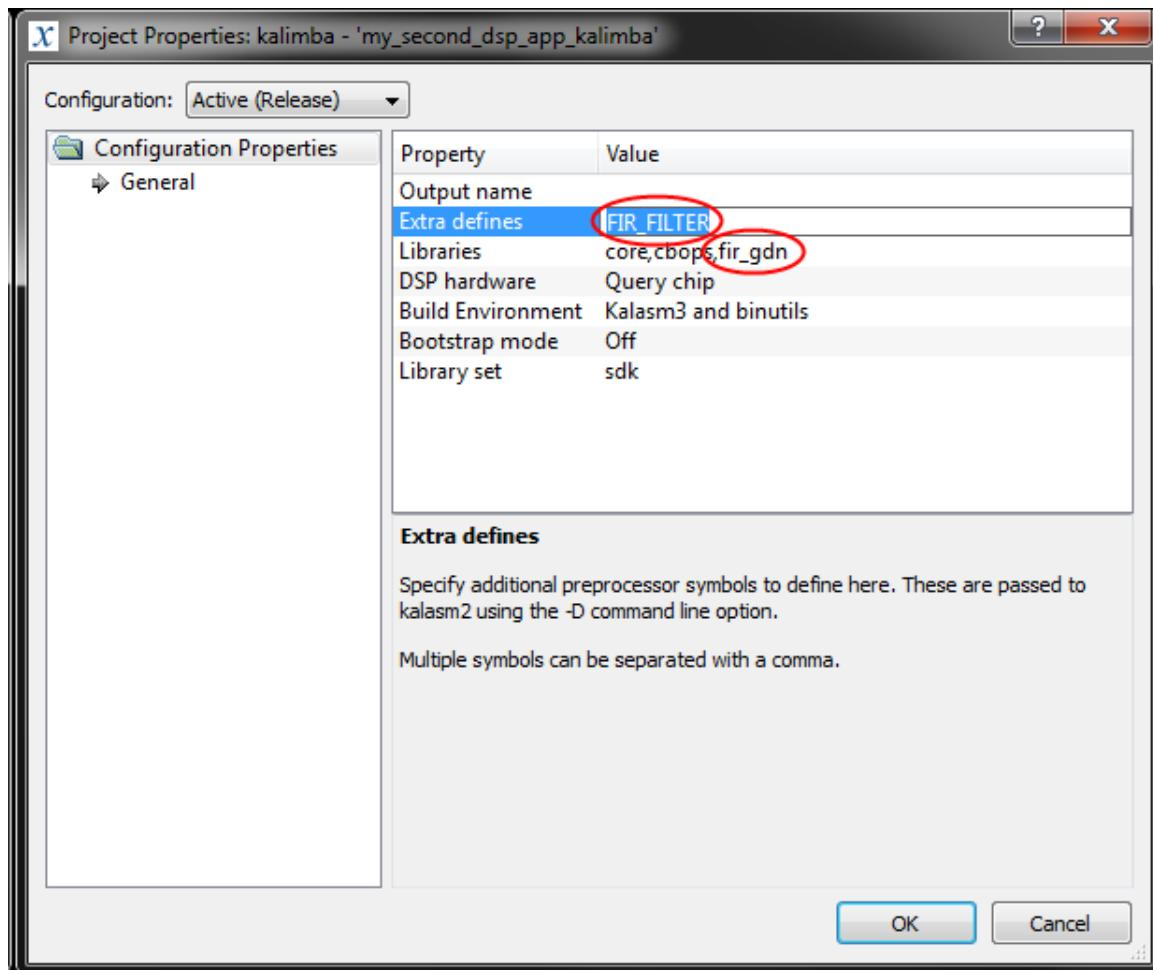

Figure 2-6 Kalimba - my_second_dsp_app_kalimba
| Figure 2-6: Kalimba - my_second_dsp_app_kalimba..... | 12 |
10. Make sure the FIR library `fir_gdn` is included by right-clicking **kalimba - 'my_second_DSP_app_kalimba'** and then selecting **Properties**. To conditionally compile the FIR filtering code, include the symbol `FIR_FILTER` in **Extra defines**, see Figure 2-6.
10. Make sure the FIR library `fir_rck` is included by right clicking **kalimba - 'my_second_dsp_app_kalimba'** and selecting **Properties**. To conditionally compile the FIR filtering code, include the symbol `FIR_FILTER` in **Extra defines**. See Figure 2.6.